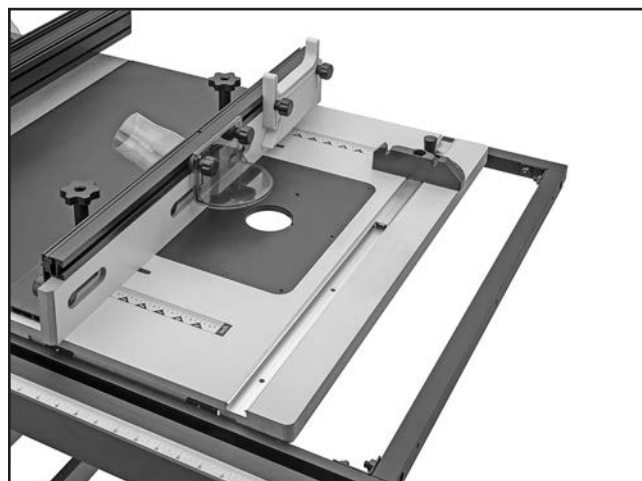

Figure 13. Router table wing attached to extension wing.
15. Place table saw fence on main table, and install fence assembly on router table (see **Figure 13**).